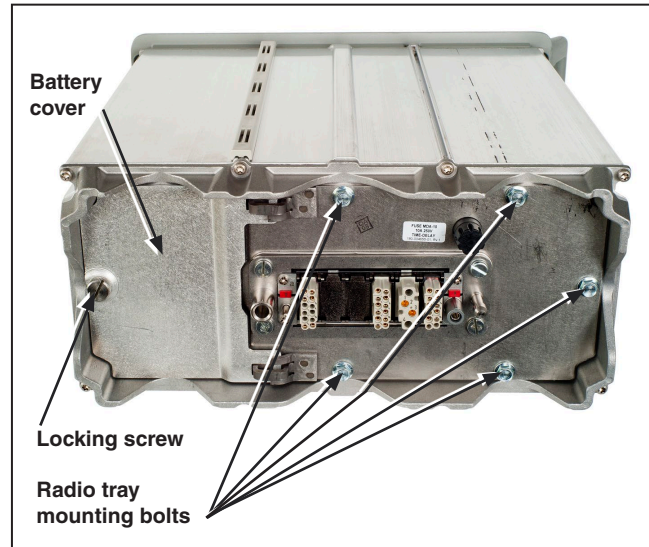

Figure 4. Removing the radio tray bolts.
- STEP 1.** Loosen the battery compartment cover locking screw and open the battery compartment cover. See Figure 4.
- STEP 2.** Remove the five 1/4–20 bolts that attach the radio tray assembly using a 3/8-inch nut driver. Retain the bolts. See Figure 4.